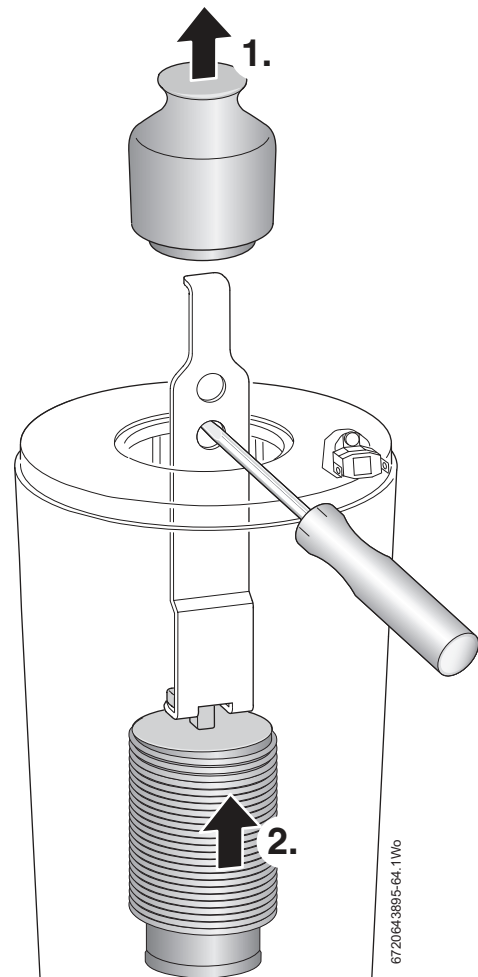

Fig. 84 Baffle removal
Refer to figure 84.
If the lower baffle is stuck, it may be necessary to use the “Baffle removal tool” from the heat exchanger cleaning kit - 7 716 192 312, as shown in figure 84.
The baffles (1) and (2) must be refitted into the heat exchanger in the order shown in figure 84. Failure to do so may result in damage to the boiler.